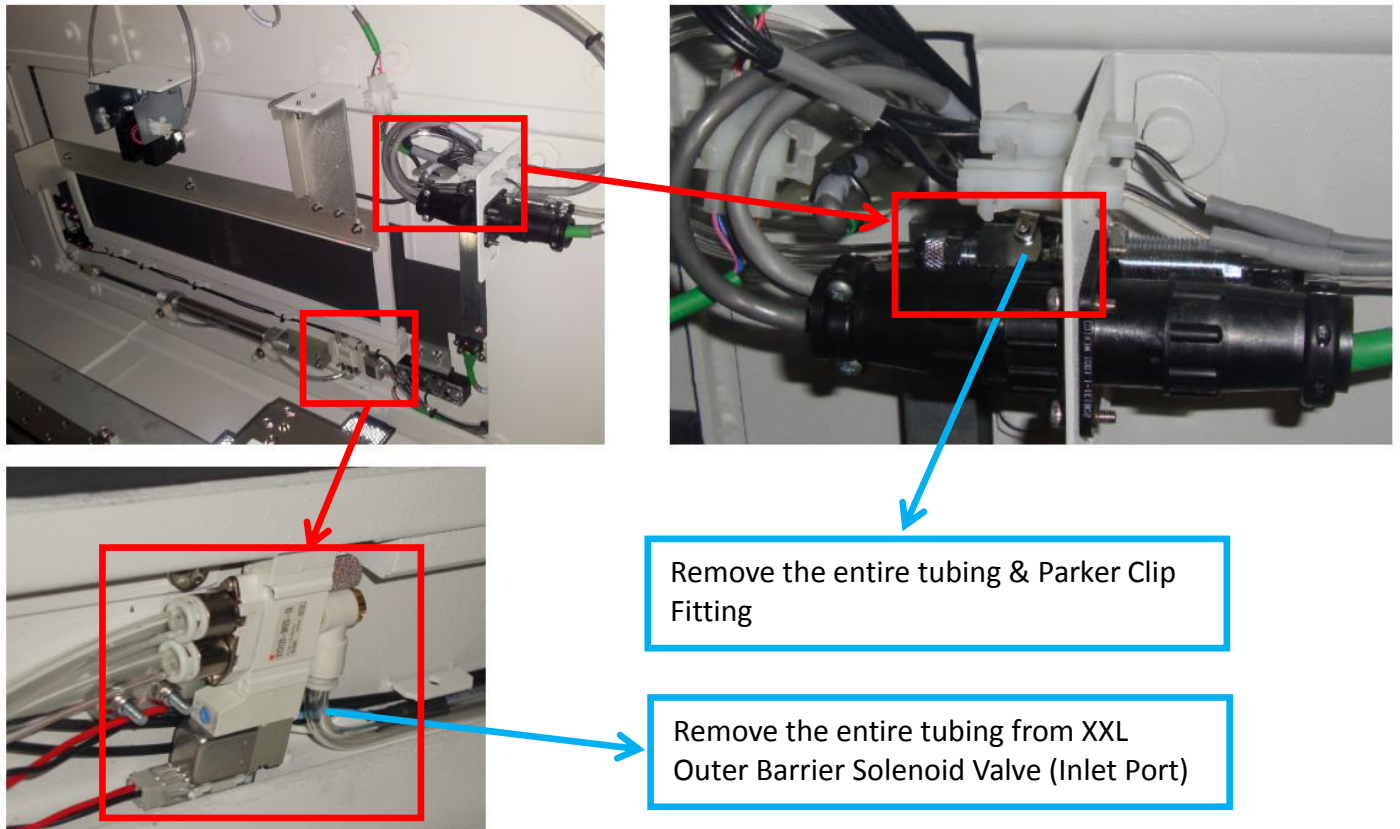

Figure 9
11. Remove entire tubing together with Parker clip fitting. May refer to below Figure 9.